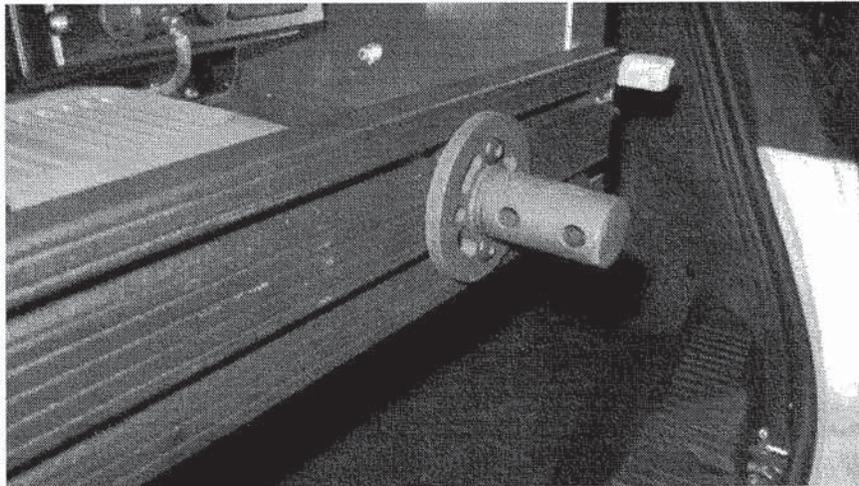

Figure 32 - Blac-Rac™ Model 1080M with Integral Lockset (T-Rail and Single Point Mounting Base)
- c. Blac-Rac™ Model 1080M with Integral Lock:** This secure rack-type PCVSS is currently one of the three models approved for Police Interceptor Sedan marked MP vehicle and is illustrated at *Figures 32 to 35* below:
- (1). Installation of this secure rack-type PCVSS requires the Blac-Rac™ Model 1080M Tactical Weapons Rack with Intergral Lock and Blac-Rac™ T-Rail System;
- (2). In this configuration the rack is supplied with an integral high security double-sided (Pagoda style) cam lock. The rack is normally delivered with two identical keys (*Note: This is a proprietary*